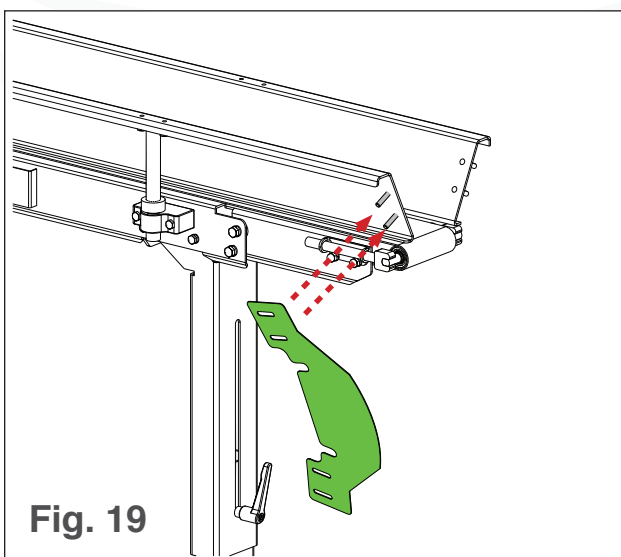

Fig. 19
1. Loop the slots in the feed chute around the threaded standoffs on one of the sidewalls so the chute is pointing forward (see Fig. 19).